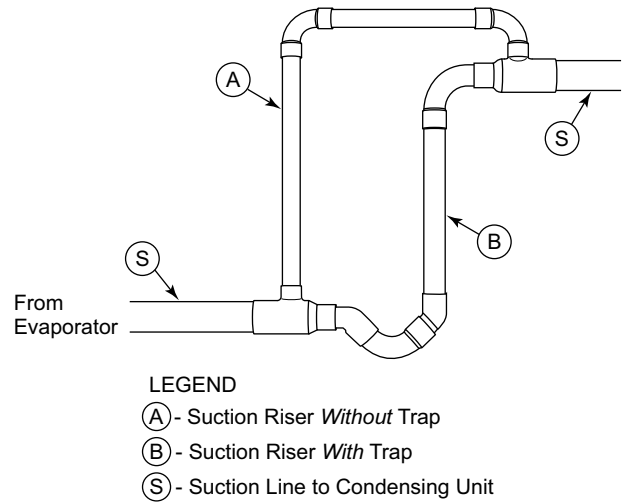

Fig. 8 — Suction Line Piping — Double Riser
- See Fig. 8 for double riser diagram. Tube S is the horizontal line size. Tube A is the reduced diameter riser size without bottom trap. Tube B is the parallel riser size with bottom oil trap.
See Fig. 8, for double riser reference, where, tube S is the horizontal line size, tube A is the reduced diameter riser size without bottom trap, and tube B is the parallel riser size with bottom oil trap.